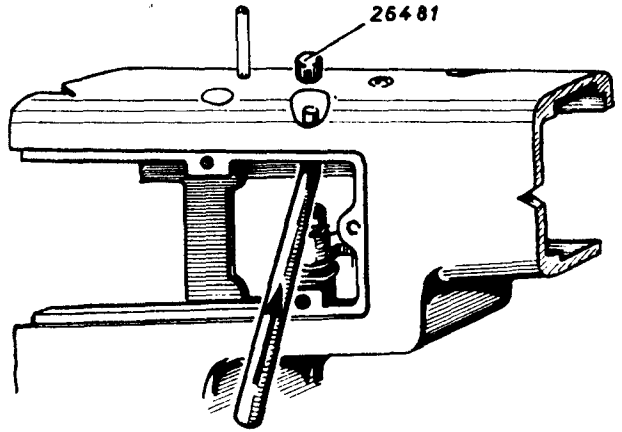

Fig. 69
- b. Place the curved punch as shown in Figure 69 and, striking it with a hammer, remove the vertical shaft enclosure cap. No. 26481 from the inside towards the outside.